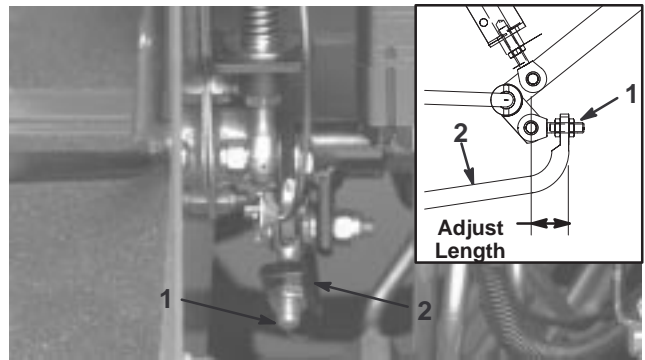

Figure 49
4. Adjust jam nuts on pump rod end to move pump control tube forward to eliminate forward creep or rearward to eliminate rearward creep (Fig. 49).